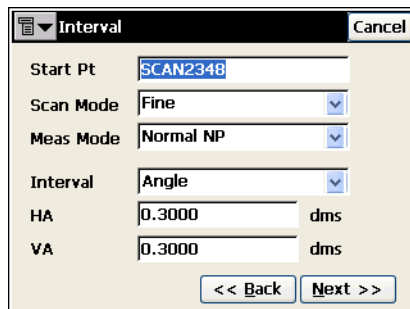
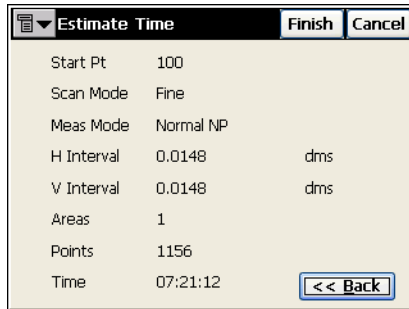

Figure 6-53. Select Scanning Interval
Figure 6-54. Estimate Time
5. Select a scanning interval. Enter the starting point name and the horizontal and vertical intervals. The intervals can either be entered as angles (Figure 6-53) or number of points. Tap **Next**.
3. The same *Interval* and *Time Estimate* screens will be displayed (Figure 6-53 on page 6-42 and Figure 6-54 on page 6-43).